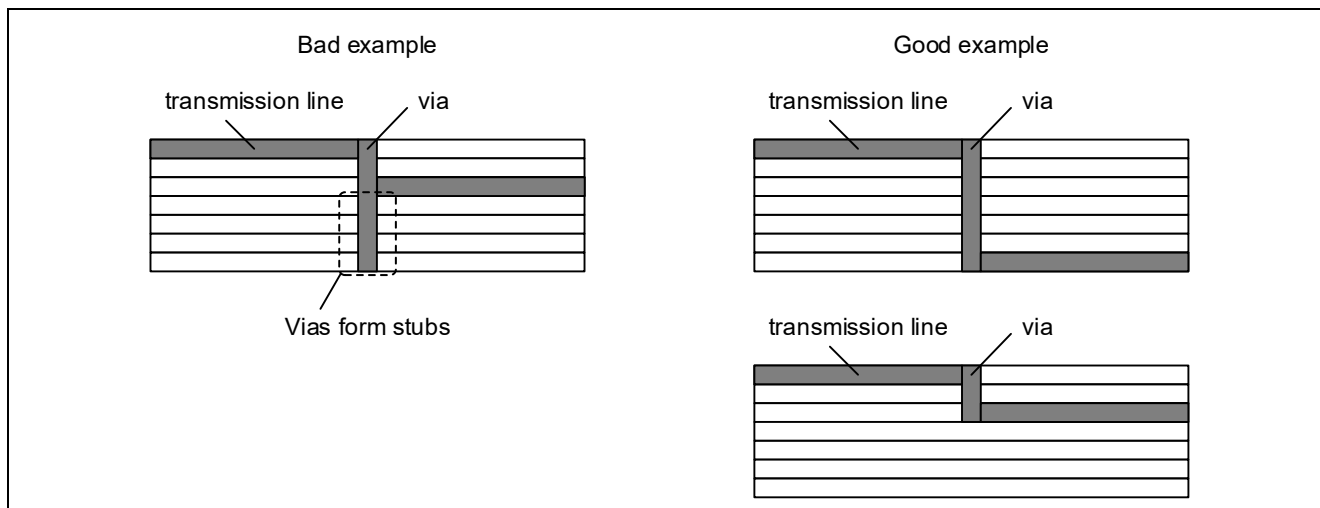

Figure 2.1 Example of stub formation with vias
- Also, do not allow vias to create stubs. **Figure 2.1** shows an example of stub formation with vias.